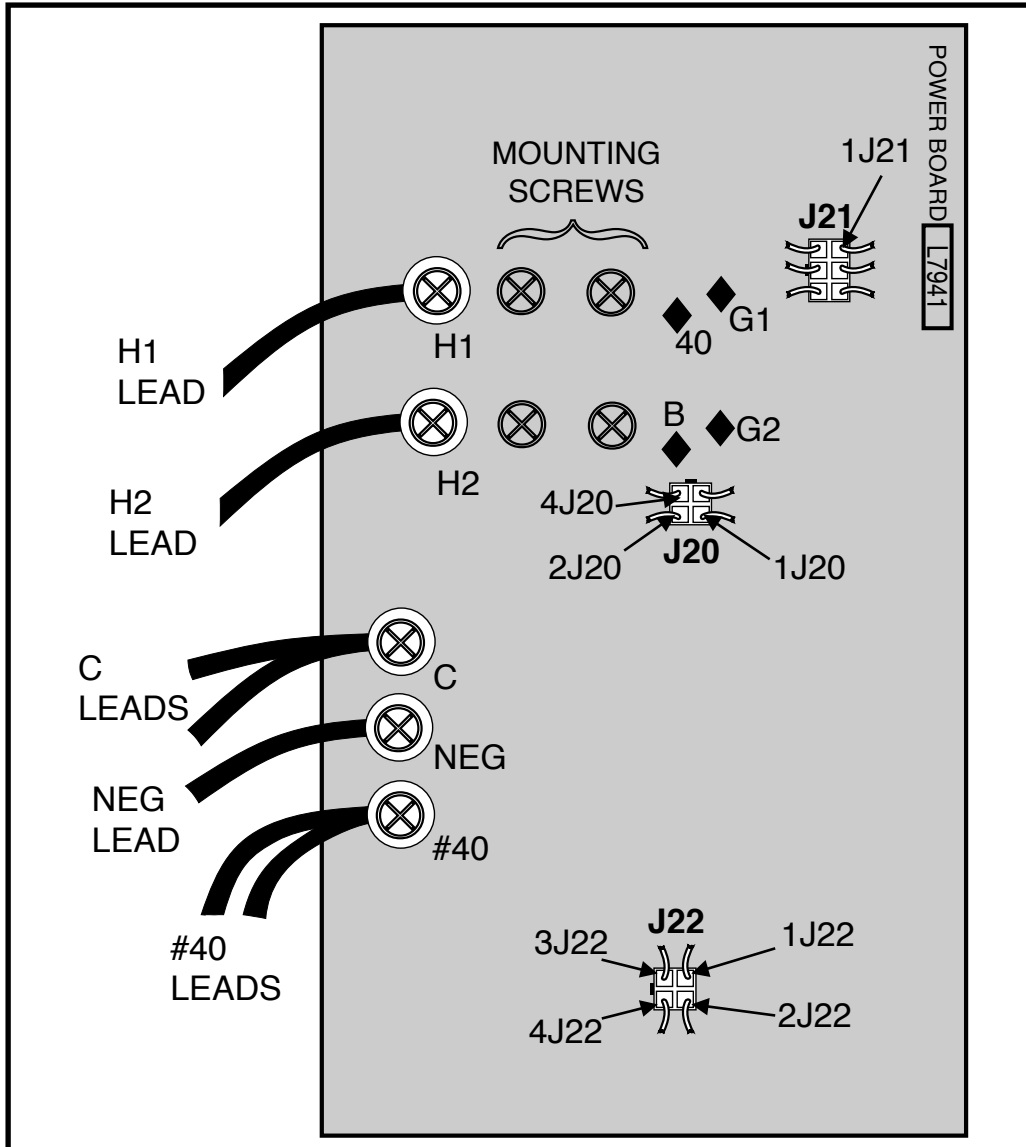

FIGURE F.14-Power Board Removal/Replacement
5. Remove G1, G2, 40, & B lead spade lugs from the terminals on the SCR modules. See Figure F.14.
6. Remove the two C leads, the NEG lead, and the two # 40 leads by unscrewing the terminal screws with a Phillips head screw driver. See Figure F.14.
7. Remove leads H1 and H2 by unscrewing the terminal screws with a Phillips head screw driver. See Figure F.14.